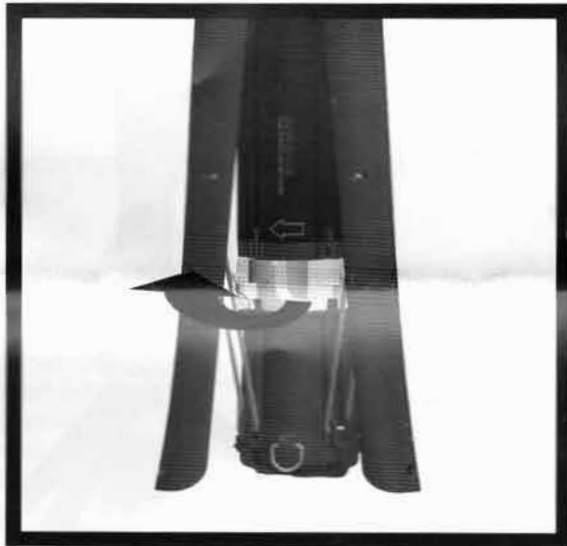

Fig. 1
1. To deploy, hold the product off the ground using the hand grip on the head cowling and rotate leg latching collar in direction indicated on arrow on the main extrusion body (see Fig.1). The legs will spring outwards.